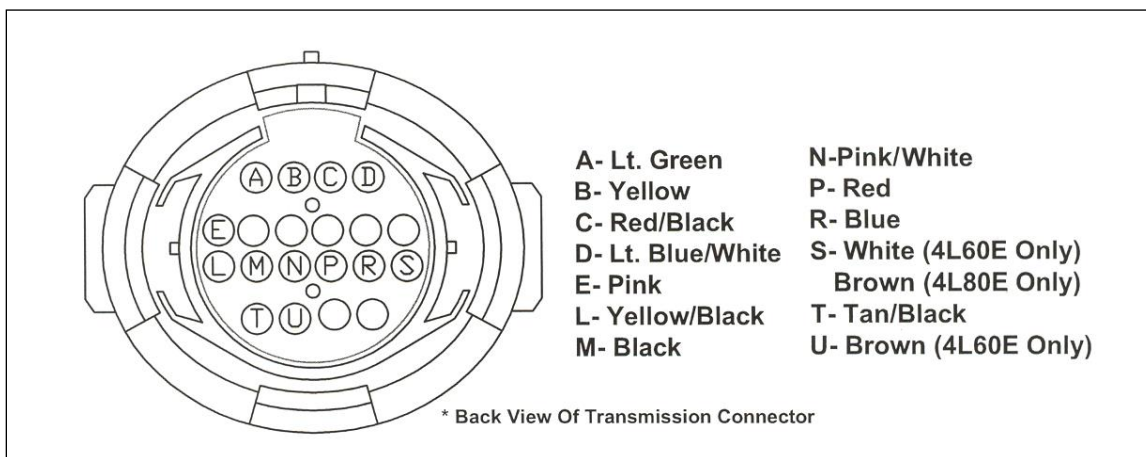
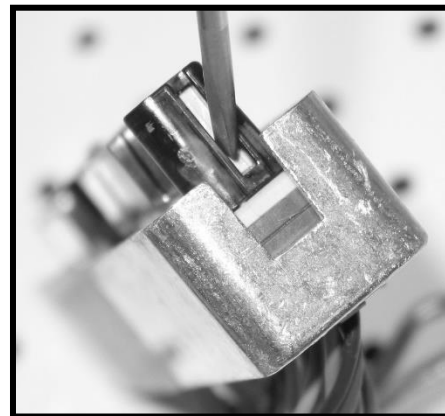

Figure 6.24 Transmission Connector Pin Out
Figure 6.25 ECM Terminal Lock
NOTE: A custom ECM tune will be needed in order to run ECM flashed with a LS1 operating system as these engines were never factory equipped with a 4L80e transmission. Harness numbers 60508 and 60509 have the transmission connector pre terminated to allow use of a 4L60E transmission. In applications where a 4L80e is to be used, follow this procedure to change your transmission connector to ensure all functions of the transmission work properly. See Figure 6.24 for repinning the transmission connector. The supplied input speed sensor pigtail from the parts kit will also need to be added to the ECM/ harness. See Figures 6.25 & 6.26 for Input Speed Sensor add on.
B. Using a small screw driver, press the locking tang on one side of the terminal lock and pull the lock away from the connector. Once one side is done, do the other side as well to completely remove the lock from the connector. You only need to remove the lock from side of the connector with pins 22 and 23. See Figure 6.25